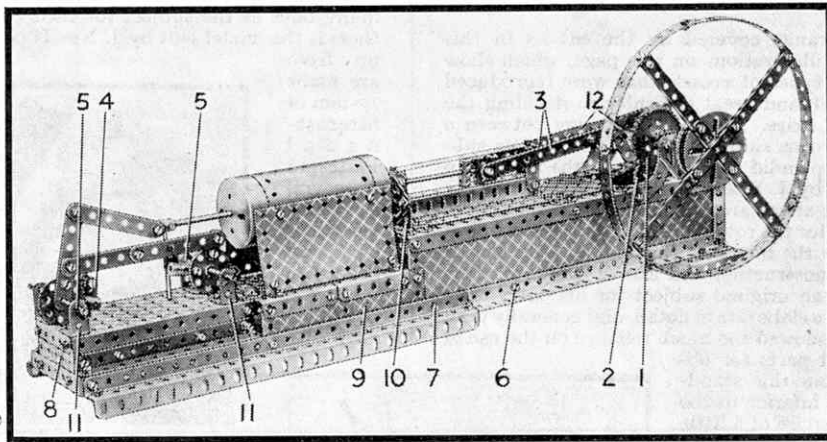

Fig. 1. A neat working model of a Pumping Engine, operated by an Electric Motor and built with Outfit G.
Fig. 1. A Meccano impression of an Alaskan dog team fighting its way through a blizzard. The attitudes of the figures and the dogs play an important part in obtaining the right effect.
**P**UMPING ENGINE models have often been described and illustrated in the "M.M.," but the engine shown in Fig. 1 justifies the appearance of yet another model of this kind. Although this is a simple one, built with Outfit G, it is one of the neatest that have ever been designed.
In building the model, construction should be commenced with the base as shown in Fig. 1. The cylinder, which is represented by a Boiler, is next secured in position. This is done by bolting a  $4\frac{1}{2} \times 2\frac{1}{2}$ " Flexible Plate on opposite sides of the Boiler, and joining these to the two  $3\frac{1}{2} \times 2\frac{1}{2}$ " Flanged Plates which are fastened to the Flexible Plates 9, by means of Angle Brackets. A washer should be placed on the shank of each bolt, between the  $4\frac{1}{2} \times 2\frac{1}{2}$ " Flexible Plates and the Boiler, in order to leave sufficient room to enable the Boiler Ends to be pushed into position.